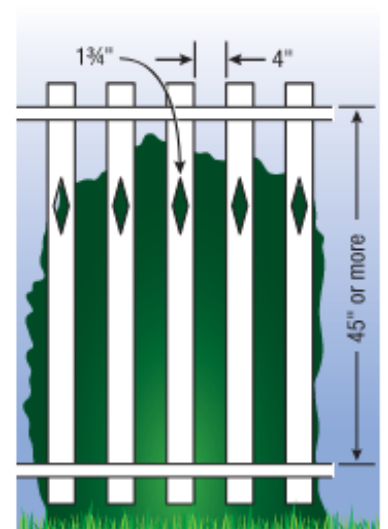

Figure 6
7. **Spacing between vertical members** should not exceed 1-3/4 inches in width. Where there are decorative cutouts, spacing within the cutouts should not exceed 1-3/4 inches in width. (figure 6)